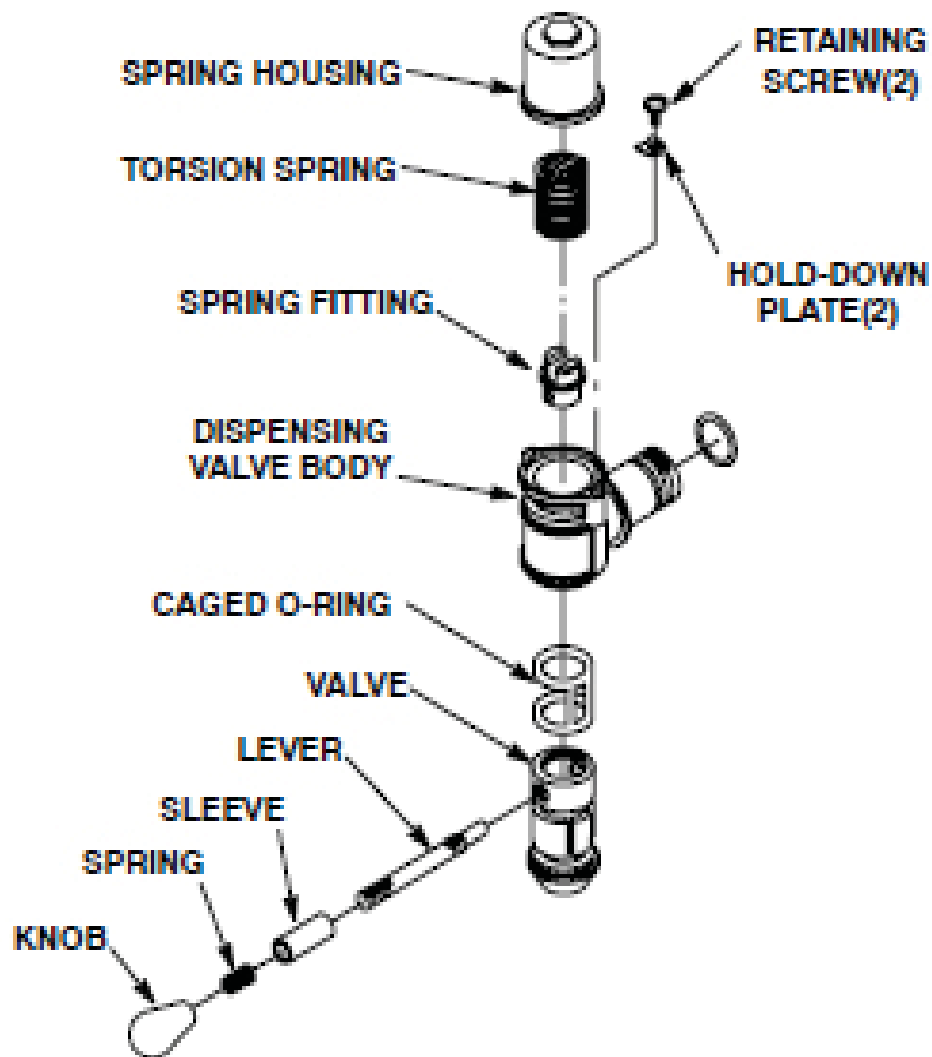

Figure 11. Self-Closing Dispensing Valve
6.	Disassemble the dispensing valve (Figure 11.).